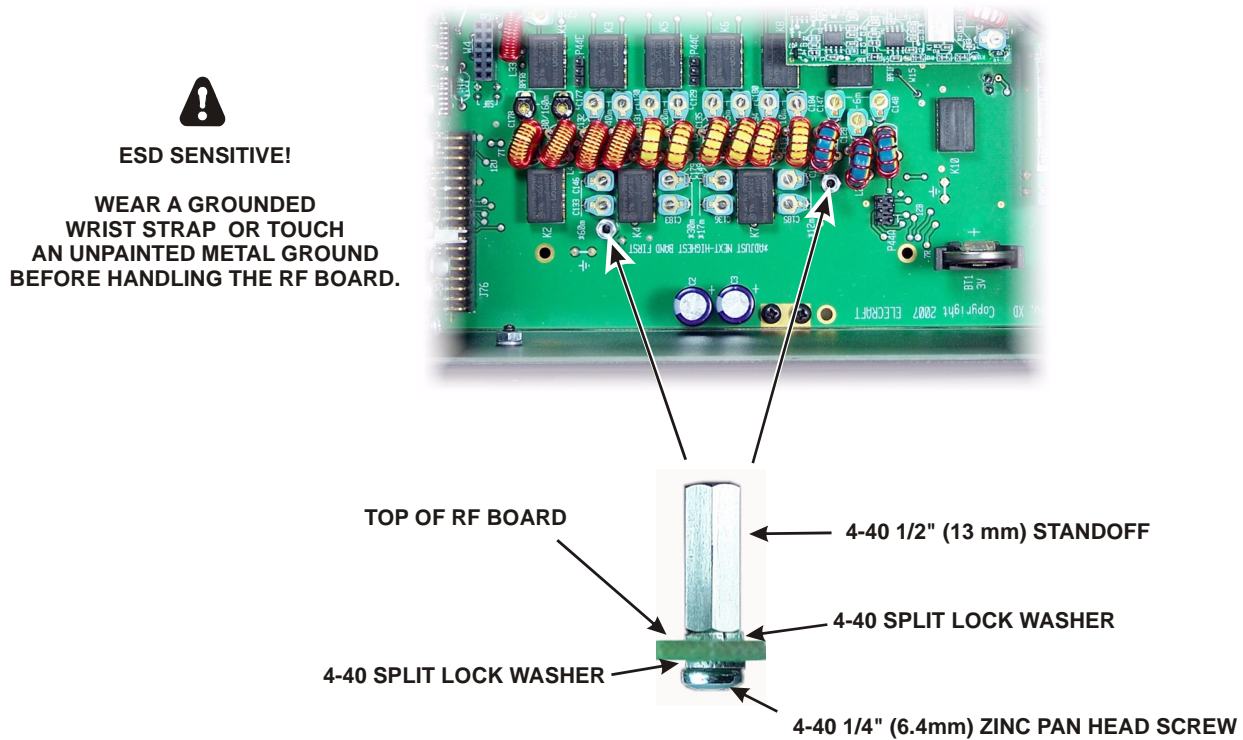

Figure 4. Installing KBFP3 Standoffs.
- Install two standoffs on the RF board as shown Figure 4. *Be sure you place a split lock washer under the head of the screw and between the standoff and the board as shown.*